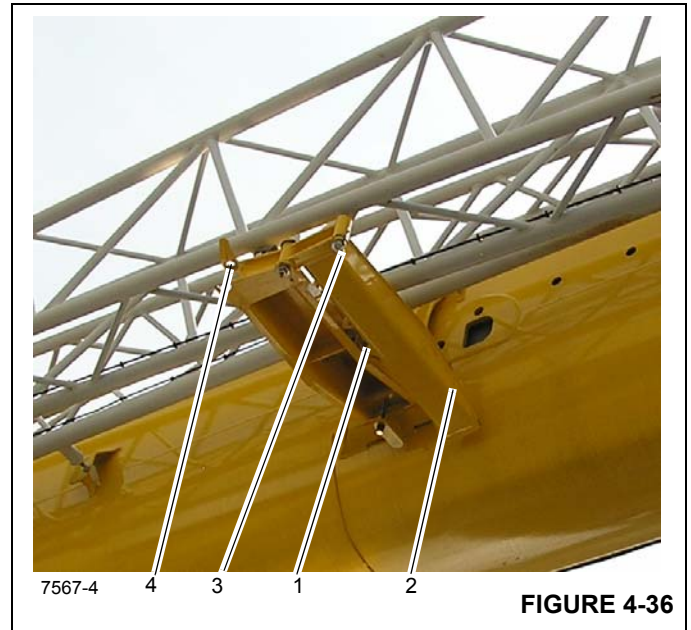
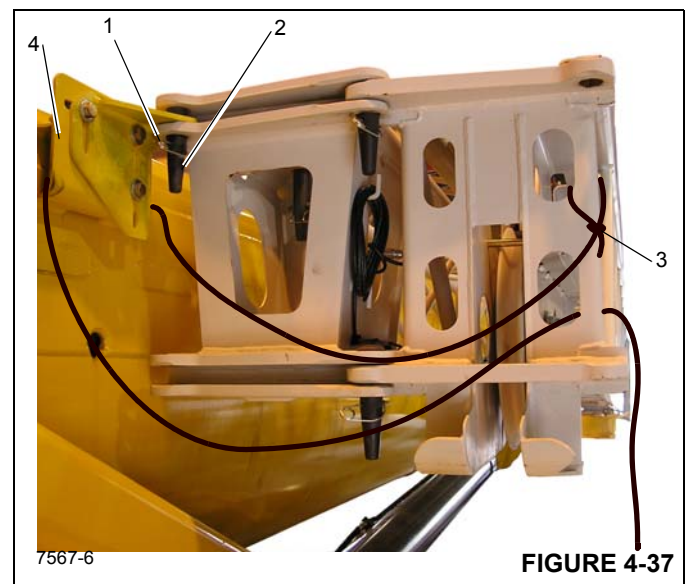

FIGURE 4-36
FIGURE 4-37
3. Attach a tag line (3) (Figure 4-37) at the front of the extension.
- a. Guide the tag line around the end of the extension and through the bracket (4) on the main boom and back again.
4. Release the spring latch (1) (Figure 4-36). Fold out the run-up rail (2) until the locking pin (3) engages the tab (4).
5. Remove the retainer clip (1) (Figure 4-37) and pull the pin (2) out of connecting lug. Insert pin into holder and secure with retainer clip.